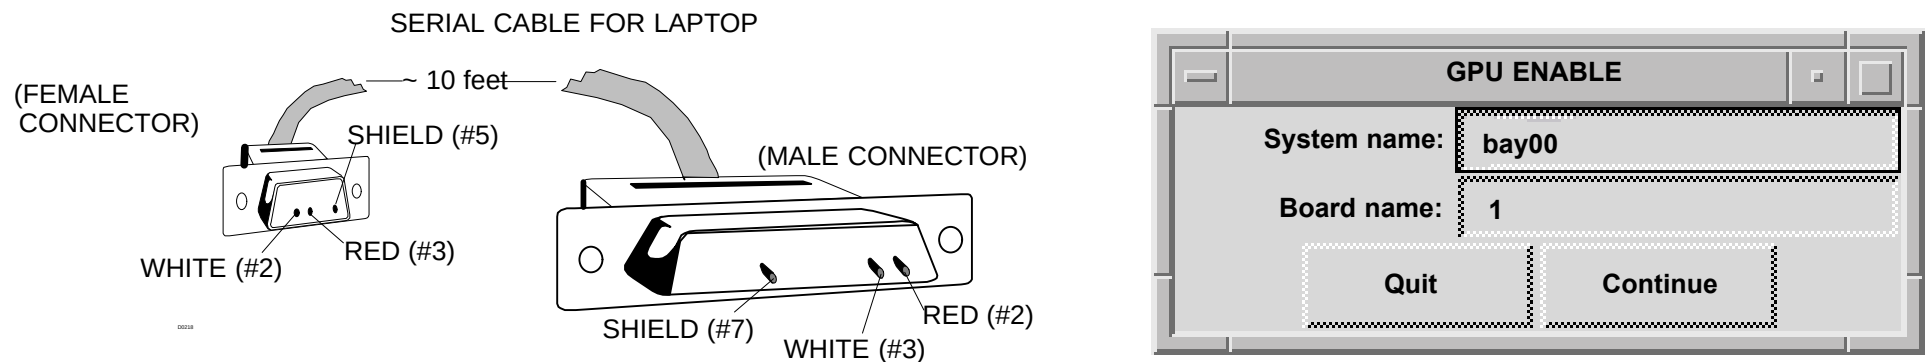

FIGURE 136 SERIAL CABLE CONFIGURATION / GPU ENABLE WINDOW
3. Enable Gena from the GANTRY pulldown menu. See Figure 136. Click on Continue and OK at the screen prompts. After completion, the screen will indicate “GPU Enable done.”